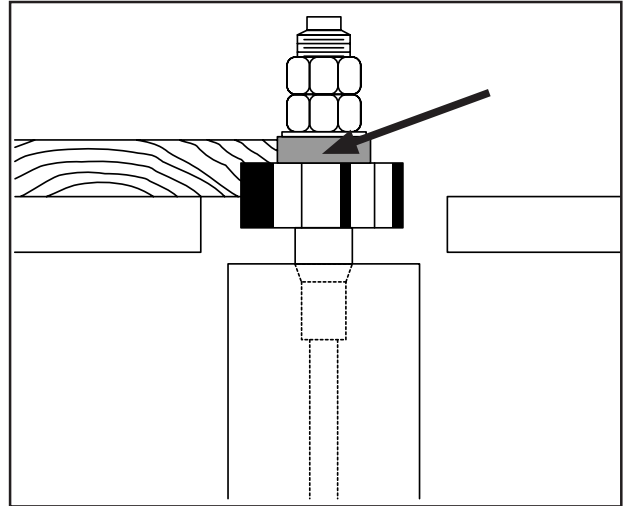

Figure 36. Rub collar installed above cutter.
2. **Above the cutter:** When the rub collar is used above the cutter as seen in **Figure 36**, the cut cannot be seen. This offers some advantage: the stock is not affected by slight variations in thickness and accidental lifting will not damage the workpiece. If lifting occurs, simply correct the mistake by repeating the operation.